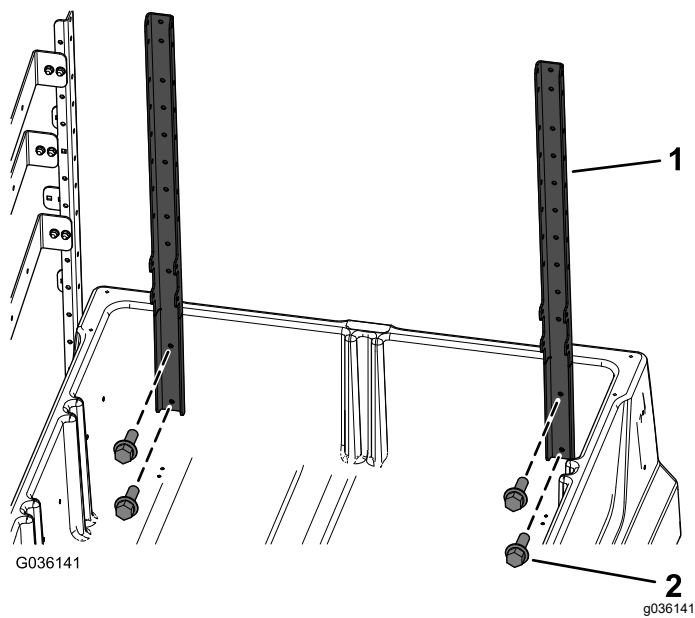

Figure 4
3. Loosely install the 2 front upright frame brackets to the inside of the cargo bed with 4 hex-head screws (1/4 x 3/4 inch) as shown in Figure 4.